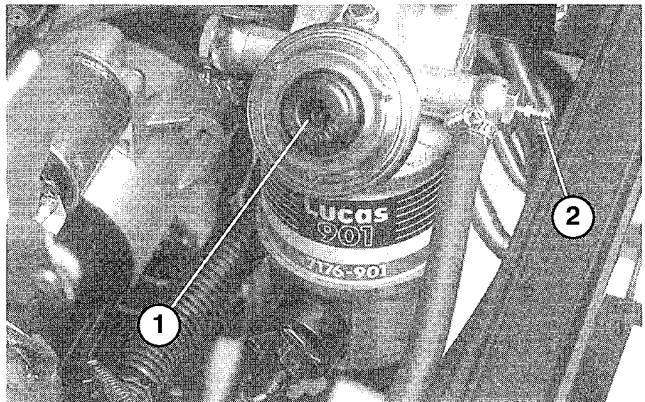

Figure 19
PRIMING FUEL SYSTEM (Fig. 19 & 20)
3. Loosen fuel filter / water separator bleed screw (Fig. 19) a few turns. Pump priming plunger until a steady stream of fuel comes out of hole in bleed screw. When fuel stops foaming, tighten the bleed screw during the downstroke of the priming plunger. Wipe up any spilled fuel.